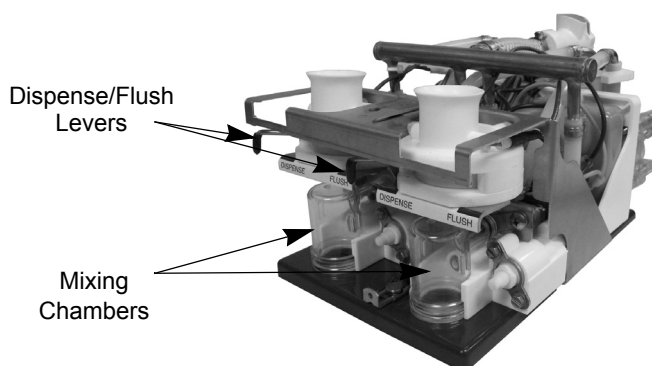

Figure 7. Platform Assembly with Dispense/Flush Levers
1. Move all of the Dispense/Flush levers (located on the platform assembly in the refrigerated cabinet) to the **Flush** position. Place an empty cup on the drip tray below each dispense nozzle (Figure 7).